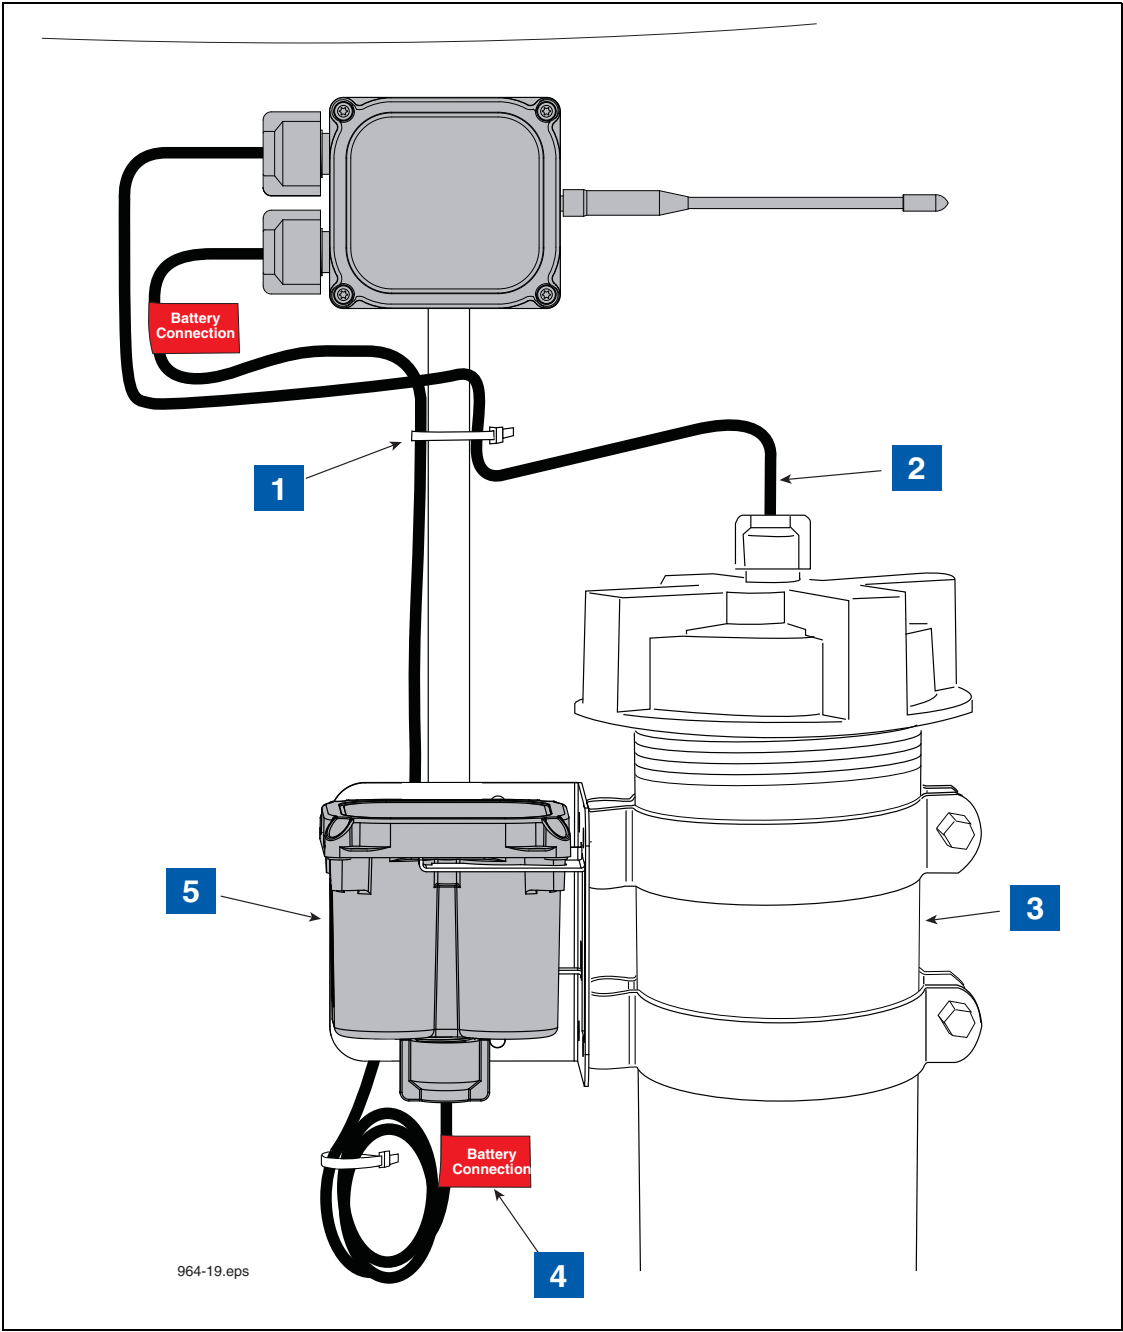

Figure 18. Mag Probe Installation Example
6. Insert the battery pack into the battery support bracket as shown in Figure 18.
LEGEND FOR NUMBERED BOXES IN Figure 18
A Transmitter/battery pack pair can be installed with a Veeder-Root Mag Sump Sensor (MSS) within the STP sump. The Transmitter/battery pack installs similar to the way it installs in probe sumps. The exception is that the support brackets will attach to the pump's 2-inch discharge piping rather than to the STP's 4-inch riser as shown in Figure 18. Rotate the Transmitter antenna as close as possible to a horizontal position then tighten two mounting screws in housing.